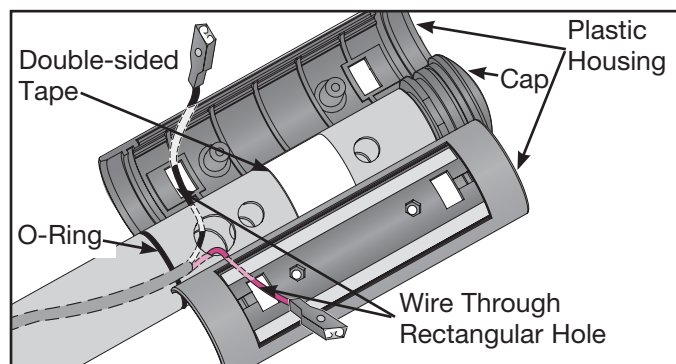

Figure 23
- D. Pull the plastic housing and cap off each handrail (the housing is secured with double-sided tape). See Figure 23.
- E. Gently push each connector out of the rectangular hole in the plastic housing. See Figure 23.
- G. Remove the old o-ring from each handrail. See Figure 23.